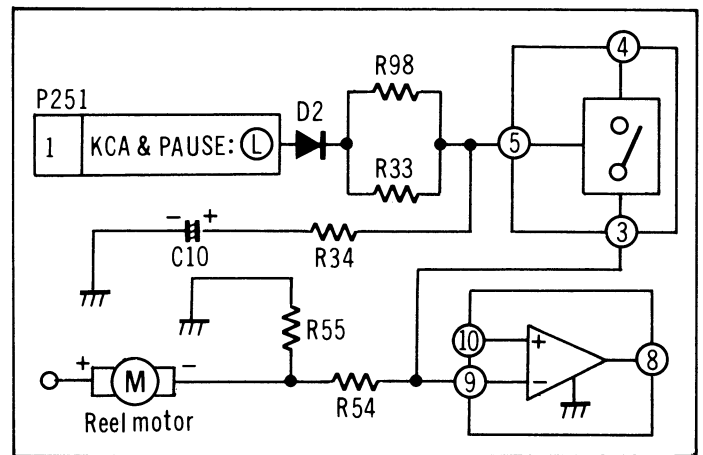

Figure 2-201
Now a still picture can be observed during pause. If a KC type cassette is used, the tape is not to be scanned in the pause mode, so a High appears at P251-(10) and IC2-(3,4,5) is turned on. R53 supplies a positive voltage to IC3-(9) to cut off motor drive and allow the tape to be slack. See Fig. 2-201.